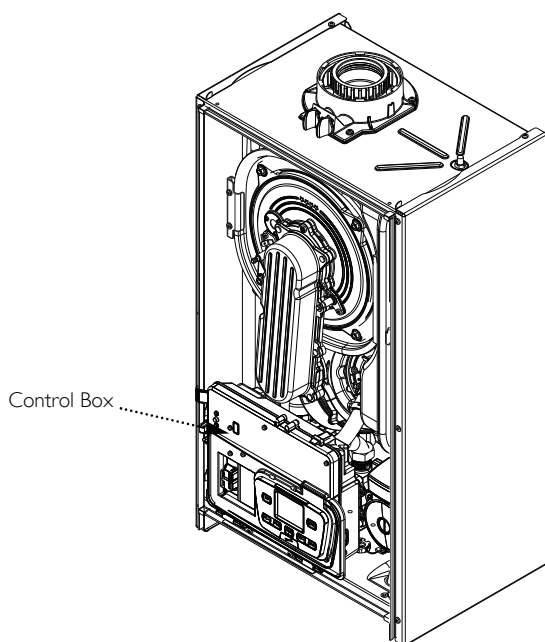

Fig. 32
2. Disengage the securing tab and hinge the control box downwards. Undo the terminal block cover securing screw and remove the cover (Fig. 32).